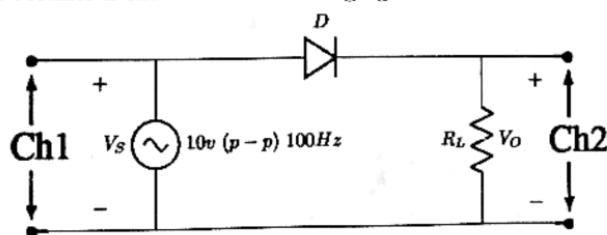

Figure 1: *Half-Wave Rectifier*
1. Construct circuit of *Figure 1*. Observe V_S and V_O simultaneously on Channel 1 and Channel 2 of the oscilloscope respectively.